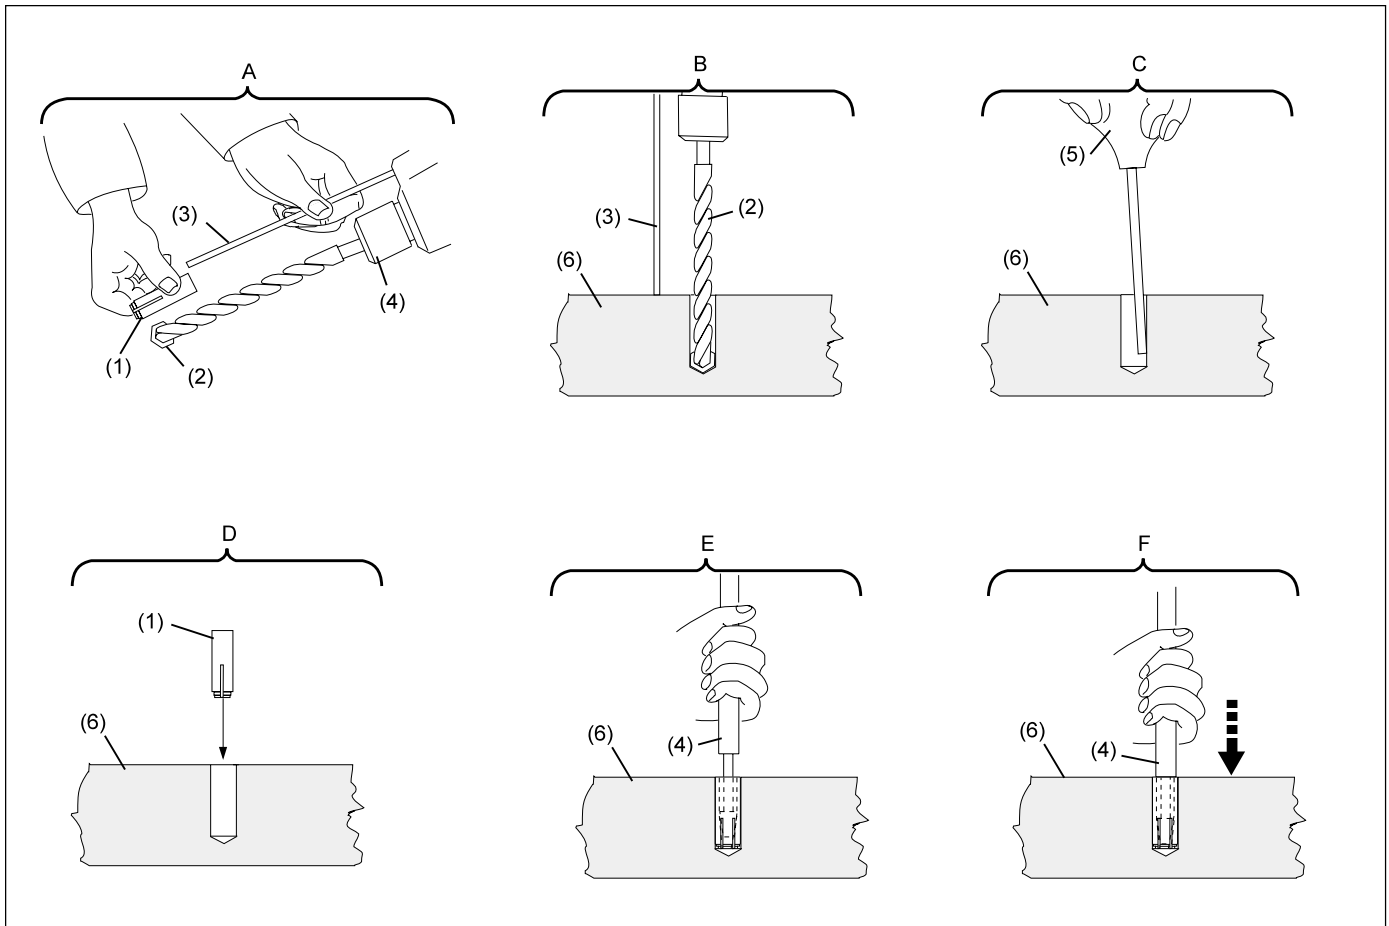

Figure 2. Install Concrete Hilti Fastener
- Adjust depth gauge so anchor will be flush with the base material surface. Refer to *Figure 2-A*.
- (3) DEPTH GAUGE
- (6) CONCRETE
- Hammer drill the hole. Refer to *Figure 2-B*.
- Clean hole with blowout bulb. Refer to *Figure 2-C*.
- Place fastener in hole with threaded end up until flush with concrete. Refer to *Figure 2-D*.
- Install anchor using Hilti hand setting tool included in model number S5-200060-000 which was included in your shipment. Setting tool to be driven into anchor until setting tool shoulder meets top of anchor. Refer to *Figures 2-E and F*.